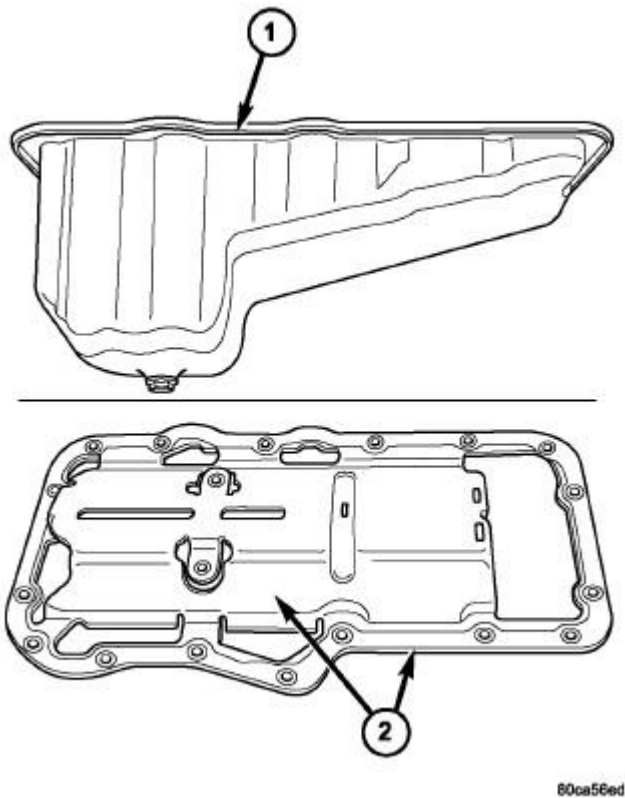

Fig. 124: Oil Pan & Gasket
The engine oil pan (1) is made of laminated steel and has a single plane sealing surface. Refer to **Fig. 124**. The